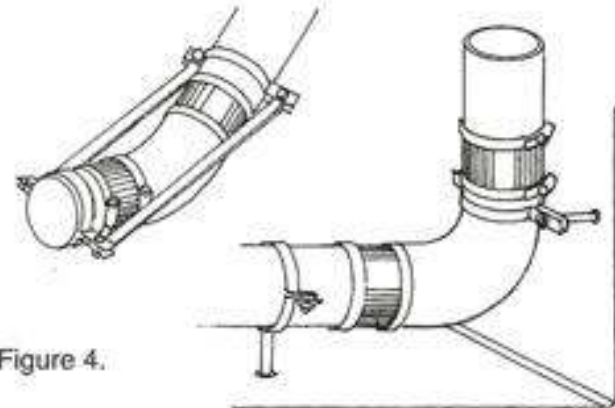

Figure 4.
Horizontal pipes and fittings in six (6) inches and larger shall be suitably braced to prevent horizontal movement. This shall be done at every branch opening or change of direction by the use of bracket, blocks, rodding or other suitable method to prevent movement such as figure 4.